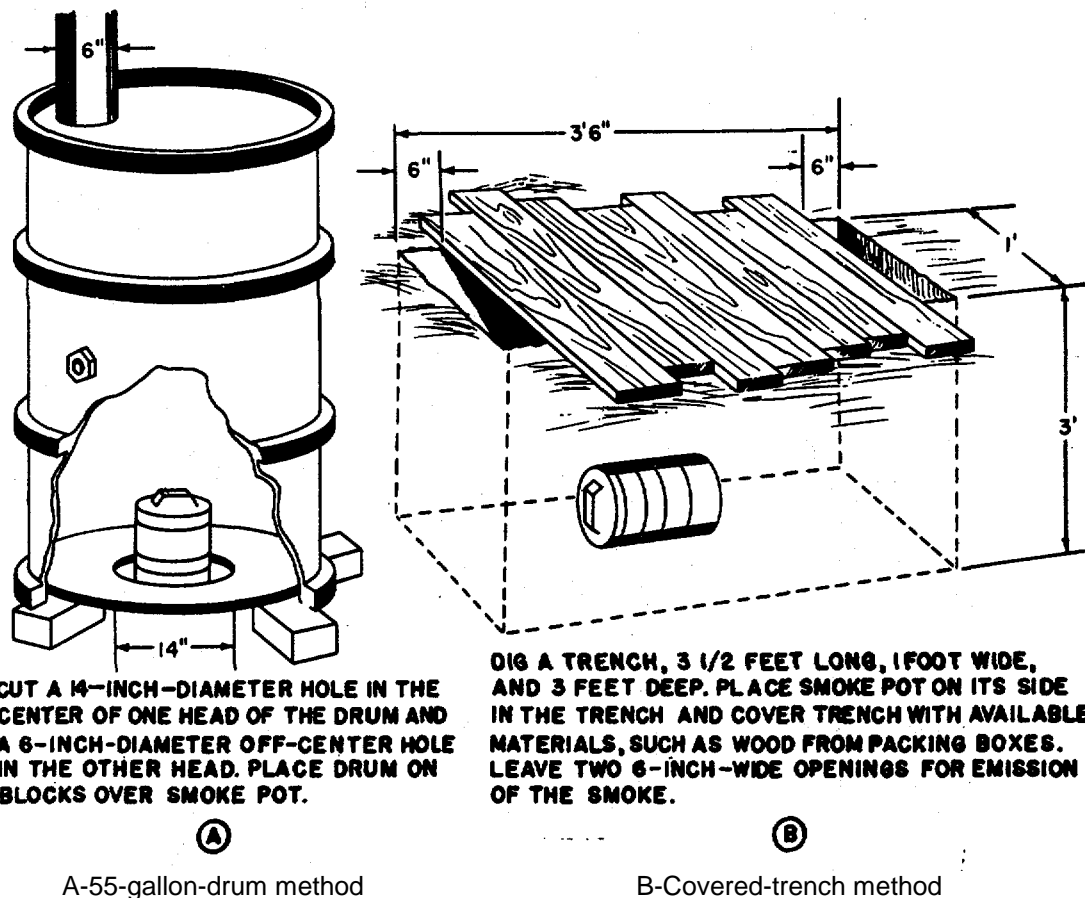

Figure 3. Methods of concealing glare from burning smoke pots.
7. Concealing Glare of Burning Pots. When the tactical situation requires that the glare from a burning smoke pot be concealed, a shield must be improvised. The shield must permit the smoke to escape freely while concealing the glare given off by the pot. The burning pot can be placed under a 55-gallon drum (A, fig. 3) or in a covered trench (B, fig. 3) or the glare can be